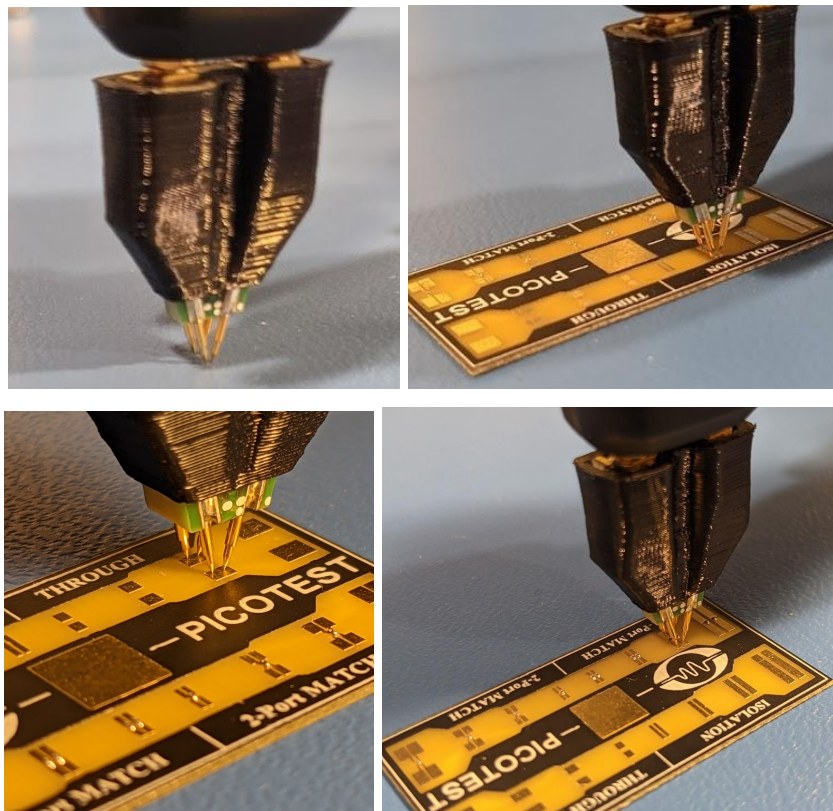
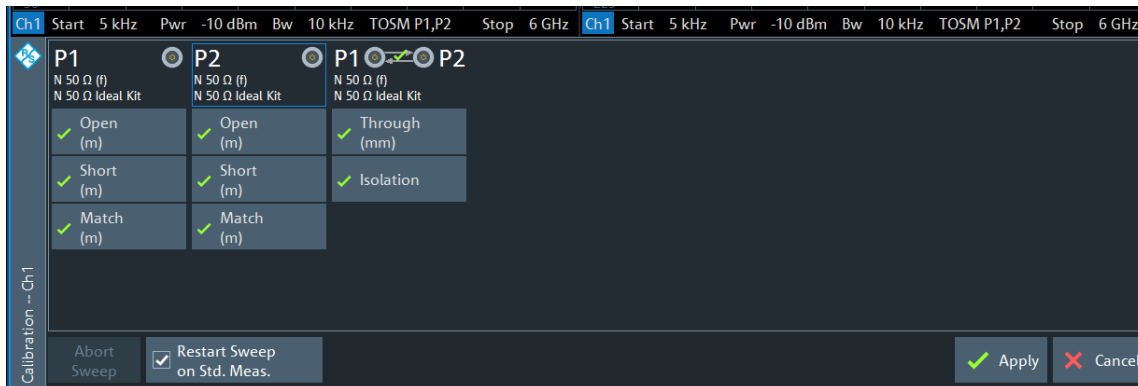

Fig. 12 - P2102A 2-port Calibration Open (top left), Short and Isolation (top right), through (bottom left) and Match/Load (bottom right) with ZNL6.
Fig. 13 - TOSM Calibration Steps Completed.
Prior to making any measurements you should ensure calibration of the setup is performed by using the proper calibration method. The ZNL series VNA has multiple calibration options shown in Table 9-7 of the ZNL user manual. Proper calibration is critical since it corrects for contact resistance, tip inductance, coupling, and thermocouple effects. Picotest's recommendation is to use the Through - Open - Short - Match (TOSM) calibration method with the ZNL. This ensures high accuracy with a 12-term error correction model by requiring seven standard measurements shown by Figure 12. An example of why this is important is shown later in this document. In addition, to ensure consistent contact resistance, optimum accuracy as well as repeatability, a probe holder can be used during calibration and measurement. There are other calibration options available on the ZNL such as Transmission Normalization (Trans Norm) which is a through calibration method that has the option to include an isolation error calibration component.
Step 12: Repeat for all 7 calibration steps until 'GREEN' check marks are reflected as shown in Figure 13. Reference Figure 12 during each TOSM calibration step.